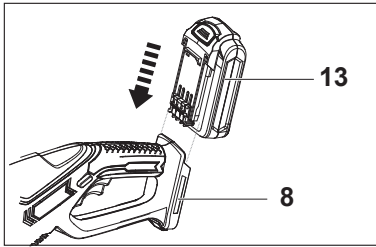

Fig. 2
1. Align the battery pack (13) with the sliding slots of the battery docking port (8) and slide the battery pack in to attach it. Ensure it clicks in place (Fig. 2).